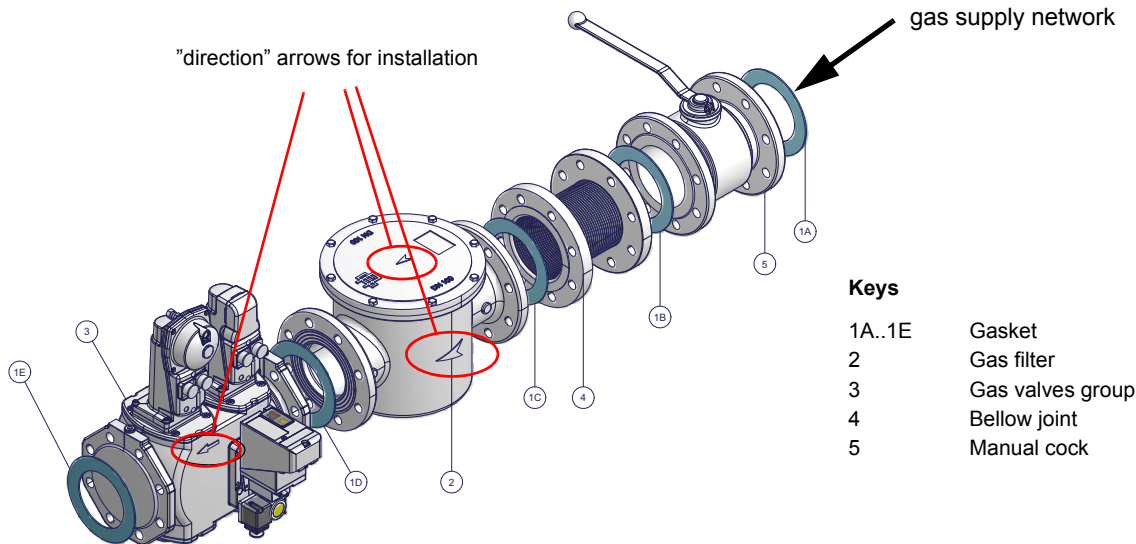

Fig. 3 - Example of gas train
1-b) in case of flanged joints: place a gasket (no. 1A..1E - Fig. 3) between the elements
**ATTENTION:** once the gas train is mounted according to the diagram on Fig. 3, the gas proving test must be performed, according to the procedure set by the laws in force.
<p>ATTENTION: once the gas train is mounted according to the diagram on Fig. 3, the gas proving test must be performed, according to the procedure set by the laws in force.</p>